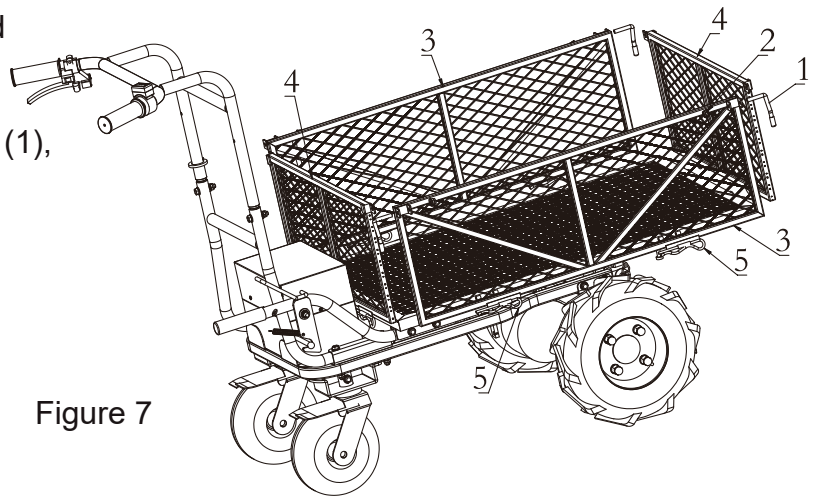

Figure 7
5. Assemble the left & right frame (3), and the front & back frame (4), locked by Pin (5).
6. Locking the entire frame by handle bar (1), the electric cart assembly is finished. (See Figure 7)